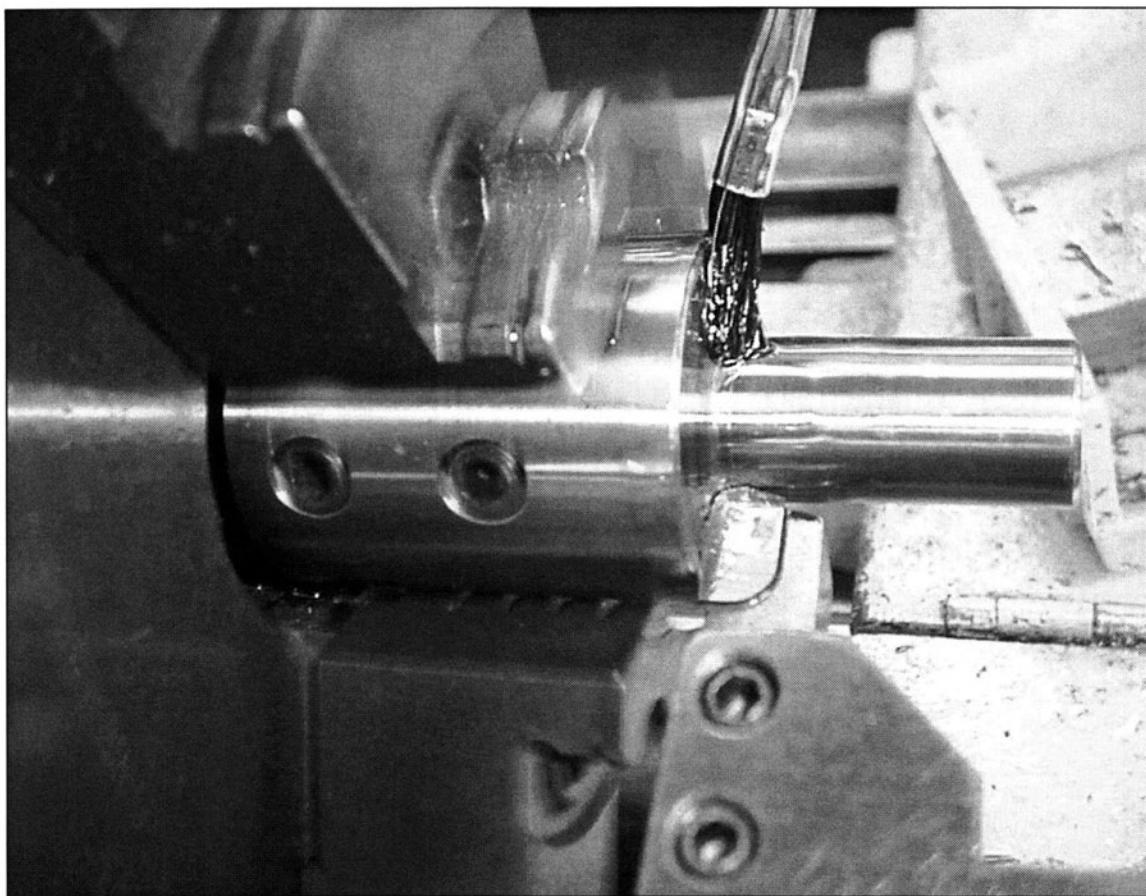

FIGURE 6-31 To eliminate chatter, slow spindle speeds and a lot of cutting oil should be used to cut large forms such as this fillet.
43. *In a lathe, use slow spindle speeds to form shoulders with large fillet radii. (See Fig. 6-31)*